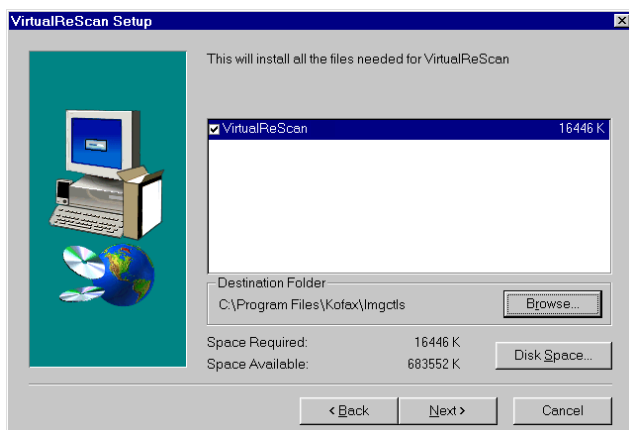

Figure 17. VirtualReScan Setup Dialog Box - Destination Folder
- 7 Click **Next** to open the **VirtualReScan Setup** panel as shown in Figure 17.